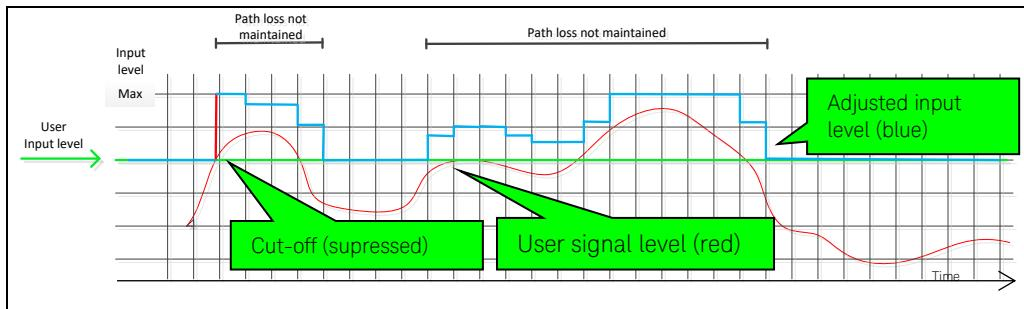
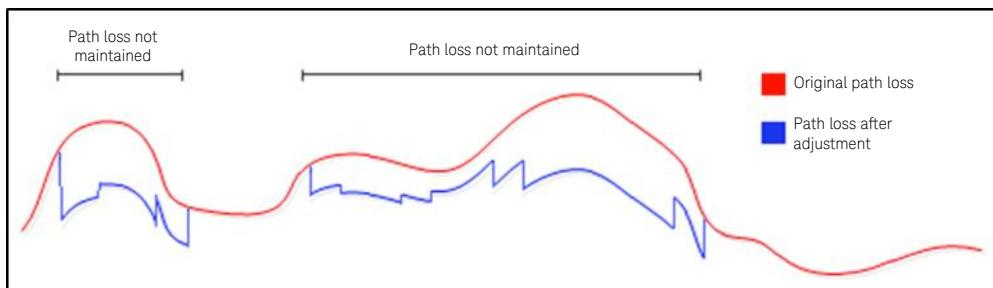

Figure 81 Illustration of automatic input level control operation in “Prevent cut-off” mode
Figure 82 Path loss change due to signal cut-off prevention by automatic input level control in “Prevent cut-off” mode
- Example illustration of “Prevent cut-off” mode and the effect to path loss are shown in Figure 81 and Figure 82.